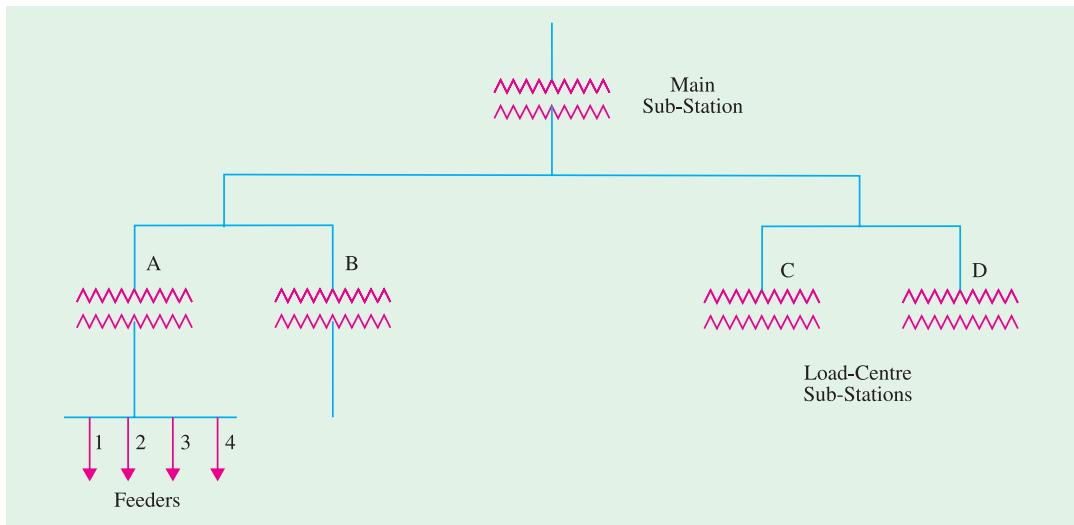

Fig. 50.6
**Example 50.11.** In Fig. 50.6 is shown the distribution network from main sub-station. There are four feeders connected to each load centre sub-station. The connected loads of different feeders and their maximum demands are as follows :